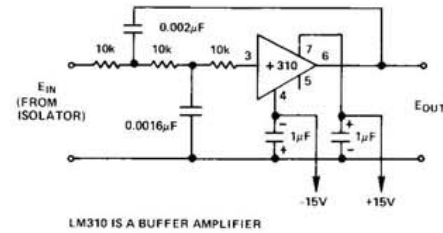

Figure 13. 2-Pole, 5kHz Active Filter
- G = 1V/V; with 2-pole, 5kHz output filter (see Figure 13).
**Noise Reduction in Data Acquisition Systems:** Transformer coupled isolators must have a carrier to pass dc signals through their signal transformers. Inevitably some carrier frequency ripple passes through to the isolator output. As the bandwidth of an isolator becomes a larger fraction of its carrier frequency, this ripple becomes more difficult to control. Despite this difficulty, the model 289 produces very low ripple; therefore, additional filtration will usually be unnecessary. However, in some applications, particularly where a fast analog-to-digital converter is used following the isolator, it may be desirable to add filtration; otherwise, ripple may cause inaccurate conversions. The 2-pole low-pass shown in Figure 13 limits isolator bandwidth to 5kHz, which is the full power bandwidth of the model 289. Carrier ripple is much reduced. Another beneficial effect of an output filter is smoothing of discontinuous high frequency waveforms.